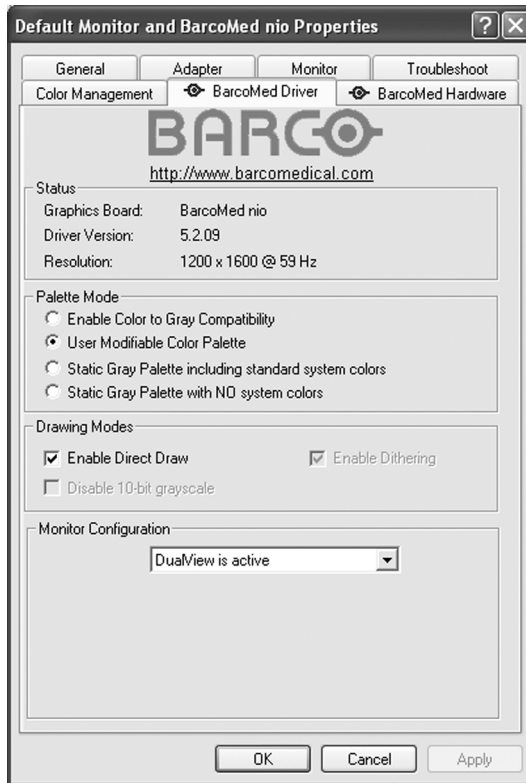

Figure 22: BarcoMed Driver Tab
2. Under Windows 2000 or Windows XP, click on "**Settings**" tab. Double click on the rectangle that represents the Barco display whose settings you wish to change to bring up its property page. Click on the "BarcoMed Driver" tab (see figure 22).